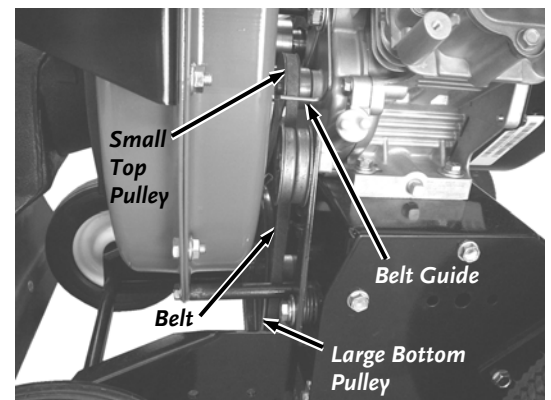

Figure 28
1. The Belt can first be pulled from the larger bottom Pulley and then from the smaller top Pulley (**Figure 28**).